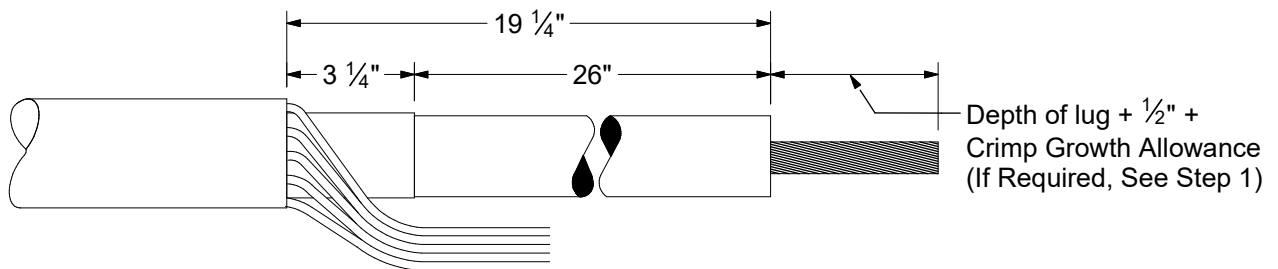

Figure 1
1. Prepare cable using dimensions shown in Figure 1. Be sure to allow for depth of terminal lug plus 1/2" plus crimp growth allowance. If a shear head bolt lug is used, additional exposed conductor is not required.